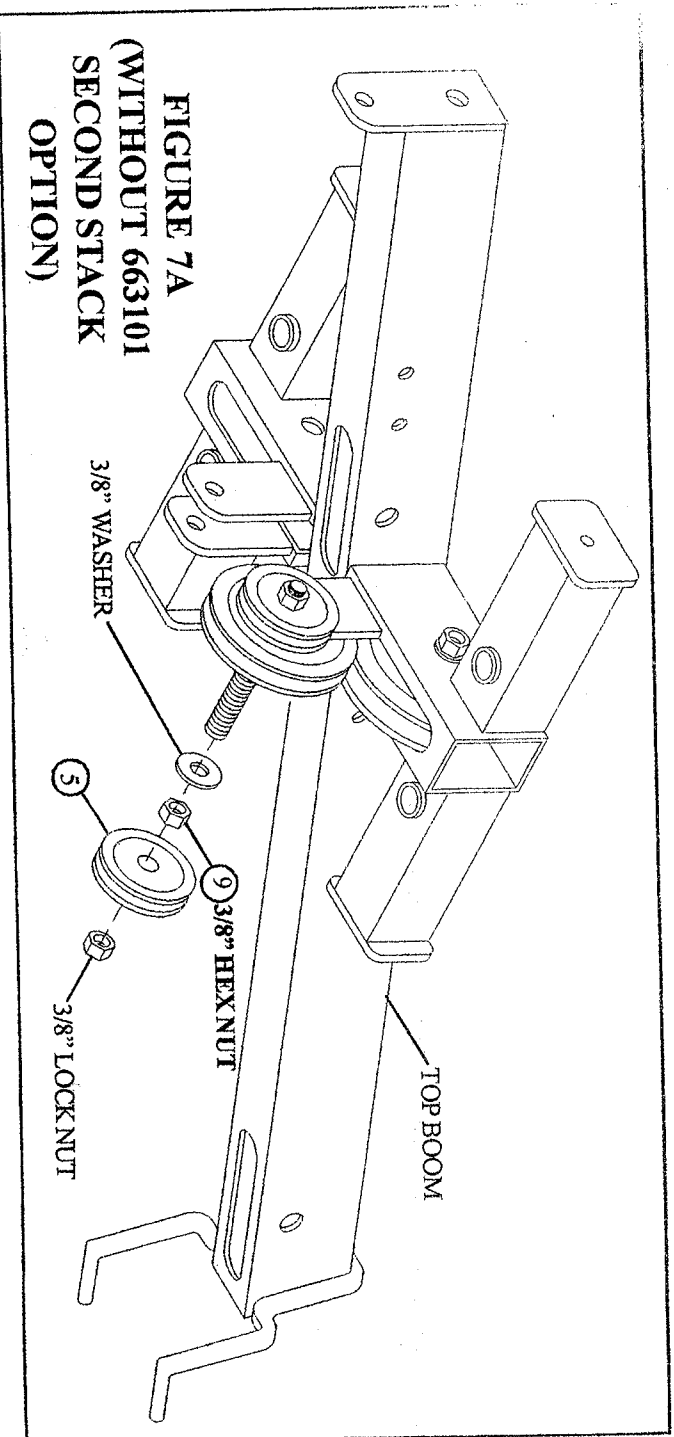

FIGURE 7A
- SECURELY assemble one 2" PULLEY (5) to the 3/8" THREADED SHAFT on the TOP BOOM using one previously installed 3/8" WASHER, one 3/8" HEX NUT (9) and one previously installed 3/8" LOCK NUT as shown in FIGURE 7A.